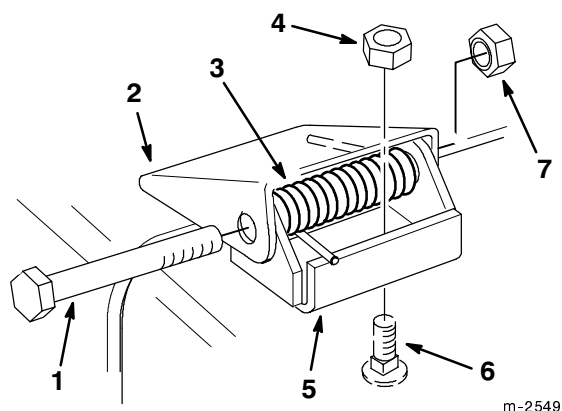

Figure 34
- Remove the locknuts, bolts and springs holding the deflector mounts to the pivot brackets (Fig. 34).
- If the pivot brackets need to be replaced, remove the carriage bolts and cone locknuts holding the old brackets to the top of the discharge opening, then install the replacement pivot brackets. Make sure the carriage bolt heads are on the inside of the cutting unit (Fig. 34).
- Install the deflector mounts between the pivot brackets with the bolts, springs and locknuts. Make sure the straight ends of the springs are positioned between the deflector mounts and the grass deflector (Fig. 34).
- Tighten the locknuts until they contact the pivot brackets (Fig. 34).